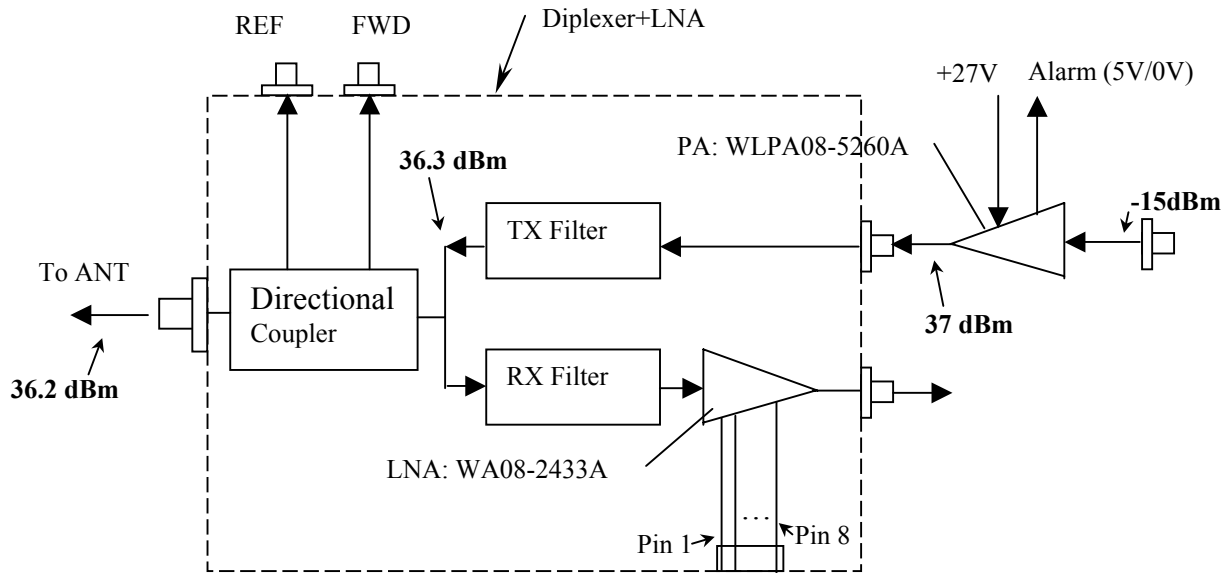

Figure 1 A typical CDMA Diplexer/LNA/PA Configuration.
As shown in **FIG. 1** of a 4-Watts CDMA RF section, Diplexer/LNA/PA unit, the diplexer and LNA, such as WA08-2433A, are integrated in a diplexer housing with a directional coupler at the input of the antenna port. A high linear power amplifier (PA), such as WLPA08-5260A, is connected to the TX input of the Diplexer+LNA unit.